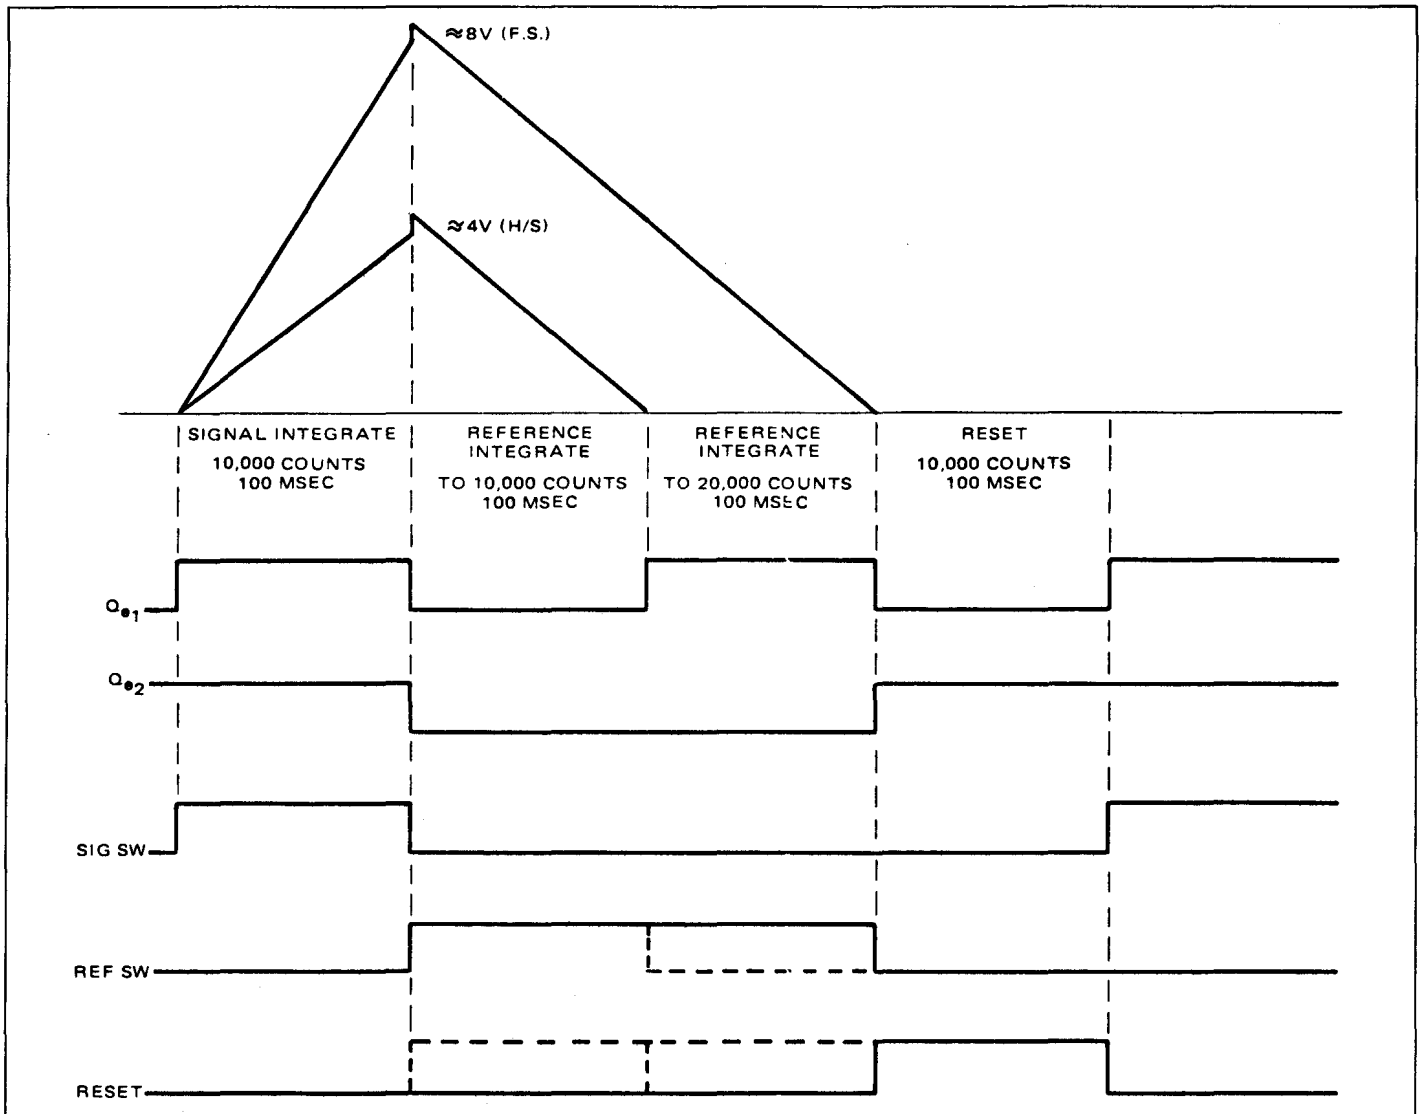
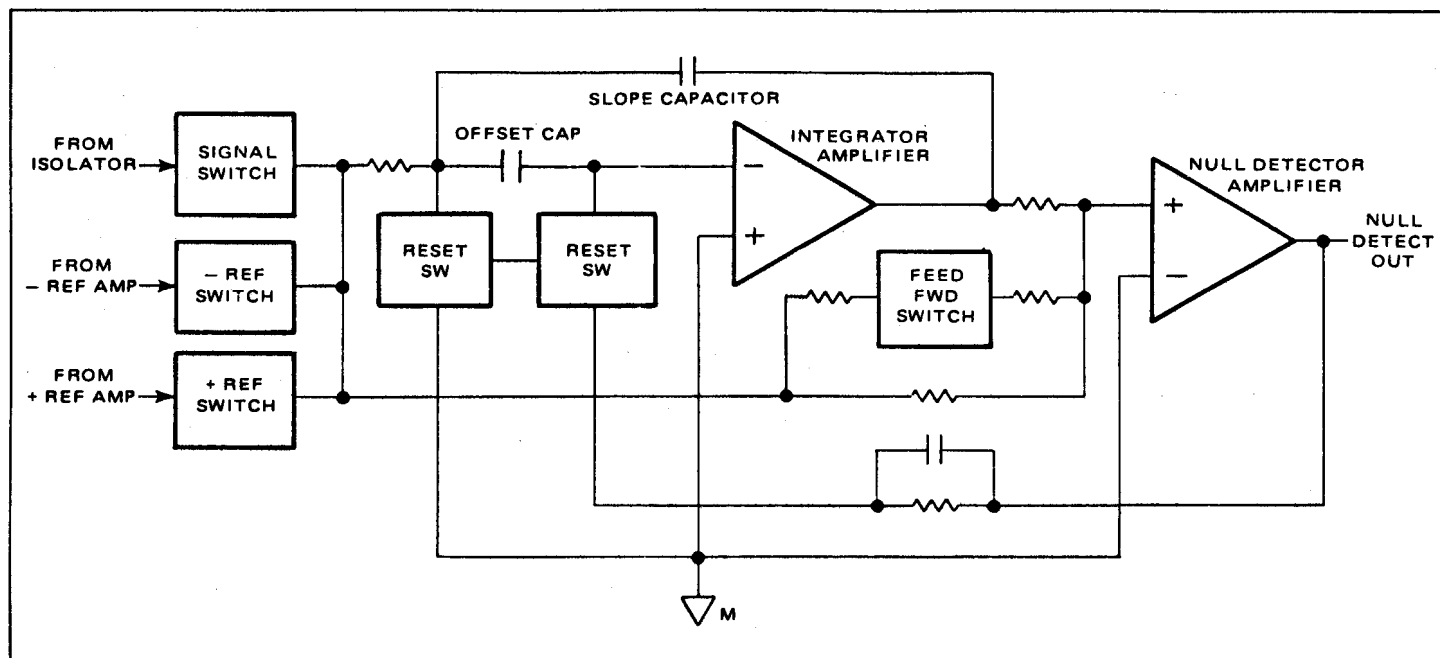

Figure 4.3 - Display Cycle Timing Using Dual Slope Integration Technique
Figure 4.9 - Integrator
4.9 The Timing and Control circuits provide the integrator and counter with the synchronization required to perform the analog to digital conversion of the measurement signal. The instrument performs continuous measurement cycles. The measurement cycle is illustrated in figure 4.3.
4.20 Integrator. The integrator is the circuit which performs the analog-to-digital conversion of the measurement signal and is illustrated in figure 4.9. The integrator uses the dual slope integration technique to perform the analog-to-digital conversion. Refer to figure 4.3 for the cycle timing relationships that relate to the dual slope integration. During the reset portion of the measurement cycle the two reset switches close placing the offset capacitor across the output of the null detector amplifier. This charges the offset capacitor to a level equal to any offset voltage that appears at the output of the null detector amplifier. At the beginning of the signal integrate portion of the measurement cycle the reset switches open and the signal switch closes, thus placing the offset capacitor in series with the measurement signal from the isolator at the input of the integrator amplifier. Thus a positive or negative offset voltage is added to or subtracted from the signal being measured. The output of the integrator amplifier charges the slope capacitor for a fixed period of time (100 milliseconds). The charge placed on the capacitor is dependent on the magnitude or level of the measurement signal from the isolator. Refer to figure 4.3, note that there are two slopes shown representing the capacitor charging slope; these represent two measurement levels. Note that the time is the same for the charge for
both measurements but that the charging rate and the final charge level is different. From this it can be seen that the signal integrate period is always the same length but the charging rate and level of the capacitor varies with the measurement signal. At the end of the signal integrate period the feed forward switch adds a small amount of charge to the capacitor to make up for a slight delay which is incorporated to allow similar lines and circuits to settle out between the reference integrate and signal integrate portions of the measurement cycle. This causes the slope capacitor charge voltage to increase slightly. At the beginning of the reference integrate period of the measurement cycle the signal switch opens and either the - reference switch or the + reference switch closes to apply a reference voltage to the input of the integrator amplifier opposite in polarity to the voltage of the measurement signal previously applied. This reference voltage is applied to the integrator amplifier and causes the slope capacitor to discharge at a fixed rate. When the slope capacitor reaches the zero level the null detector amplifier produces a null detect pulse. Note that in figure 4.3 that for both measurements the rate of discharge was the same, e.g., the slope is the same angle. Also note that for different measurement signals input the zero crossing occurs at a different point in time. Thus, it can be seen that the time periods of the reference integrate portion of the measurement cycle is proportional to the value of the measurement signal. The output of the null detector is used by the Timing and Control circuits to stop the measurement counter. On figure 4.3 the Q_{e1} and Q_{e2} signals shown are timing signals generated by the measurement counter chip and used by the Timing and Control circuits for circuit synchronization and generation of control signals.